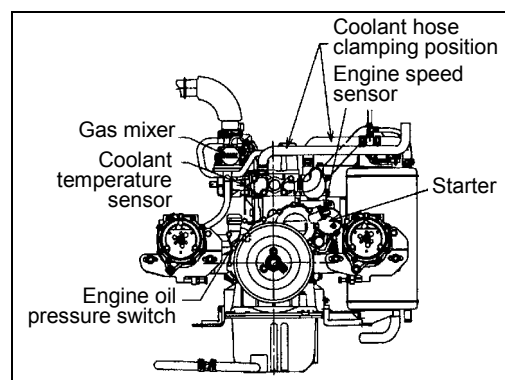

Fig. 2
- [3] Drain the coolant. See Figs. 2 and 3.
- [4] Remove the harness. See Figs. 2 and 3.